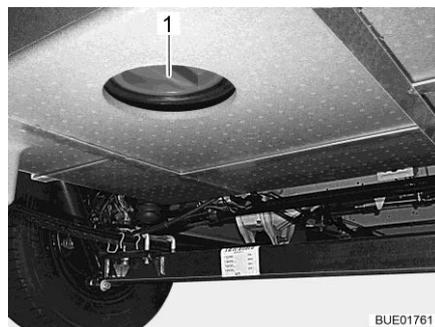

Fig. 304 Cleaning opening (waste water tank)
- Open the cleaning opening (Fig. 304,1) on the waste water tank and the drain cock.